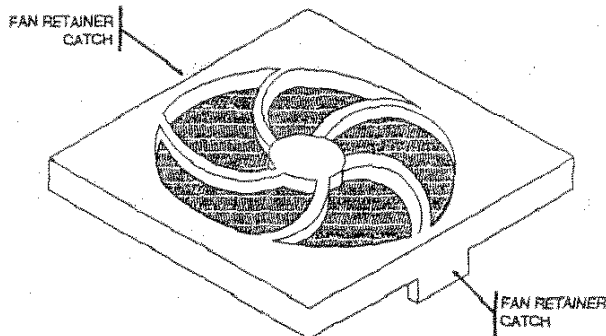

FIGURE 1-3. FAN FILTER RETAINER REMOVAL.
- STEP 1. Remove the filter retainer by pulling the sides with the catch apart. Refer to Figure 1-3.